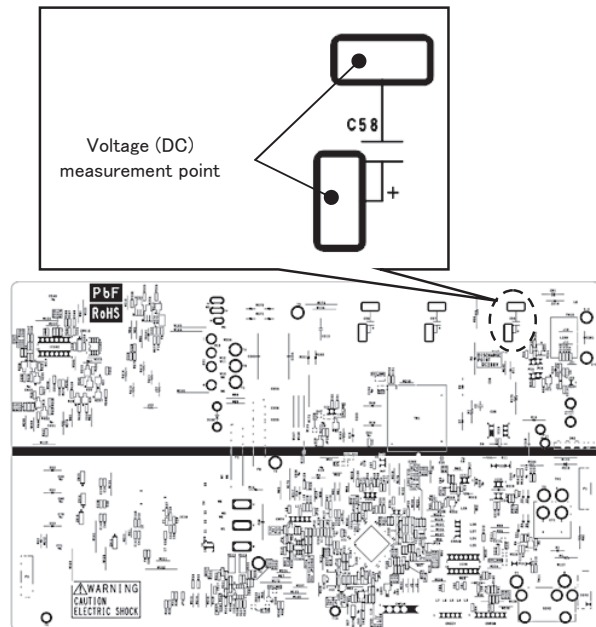

Fig.2 Voltage measurement point (Solder face of PCB (Main))
2. Open the lid, and measure DC voltage on both edges of electrolytic capacitor C58 and check that the voltage is discharged sufficiently. (Refer to Fig.2) (Since the capacitor is coated with prevention-of-moisture coating, the voltage may be hard to be measured. Remove the coating before measuring if required, taking care of an electric shock.)